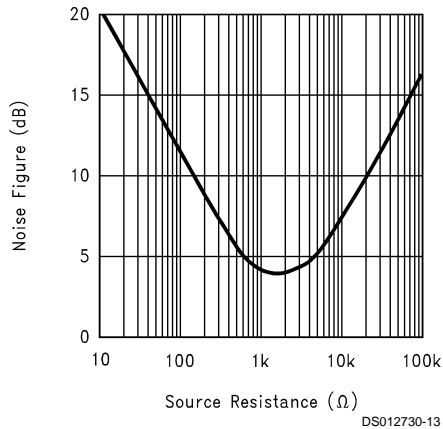

FIGURE 8. Noise Figure vs. Source Resistance
In RF applications, noise is frequently specified as Noise Figure (NF). This allows the calculation of signal to noise ratio into a defined load. *Figure 8* plots the NF for a CLC446 at a gain of 10, and with a feedback resistor  $R_f$  of 100 $\Omega$ . The minimum NF (3.9dB) occurs when the source impedance equals 1600 $\Omega$ .